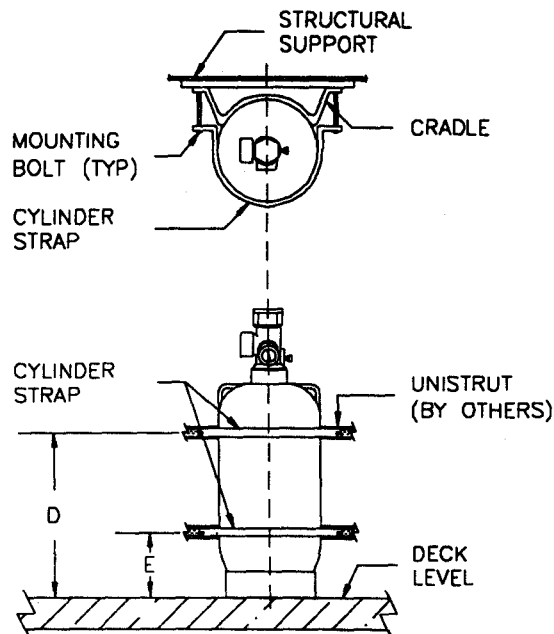

Figure 4.11.1 - Single Cylinder Installation (see Fig. 4.11.2 for "D" & "E" dimensions).
1. Position FM-200 cylinder in designated location. If moisture is likely to be present, locate cylinder(s) at least 2 inches off the deck and secure in place with two cylinder straps & cradles and attaching hardware (see Figure 4.11.1). Orient cylinder with valve outlet angled toward system piping. Cylinder must be mounted vertically.